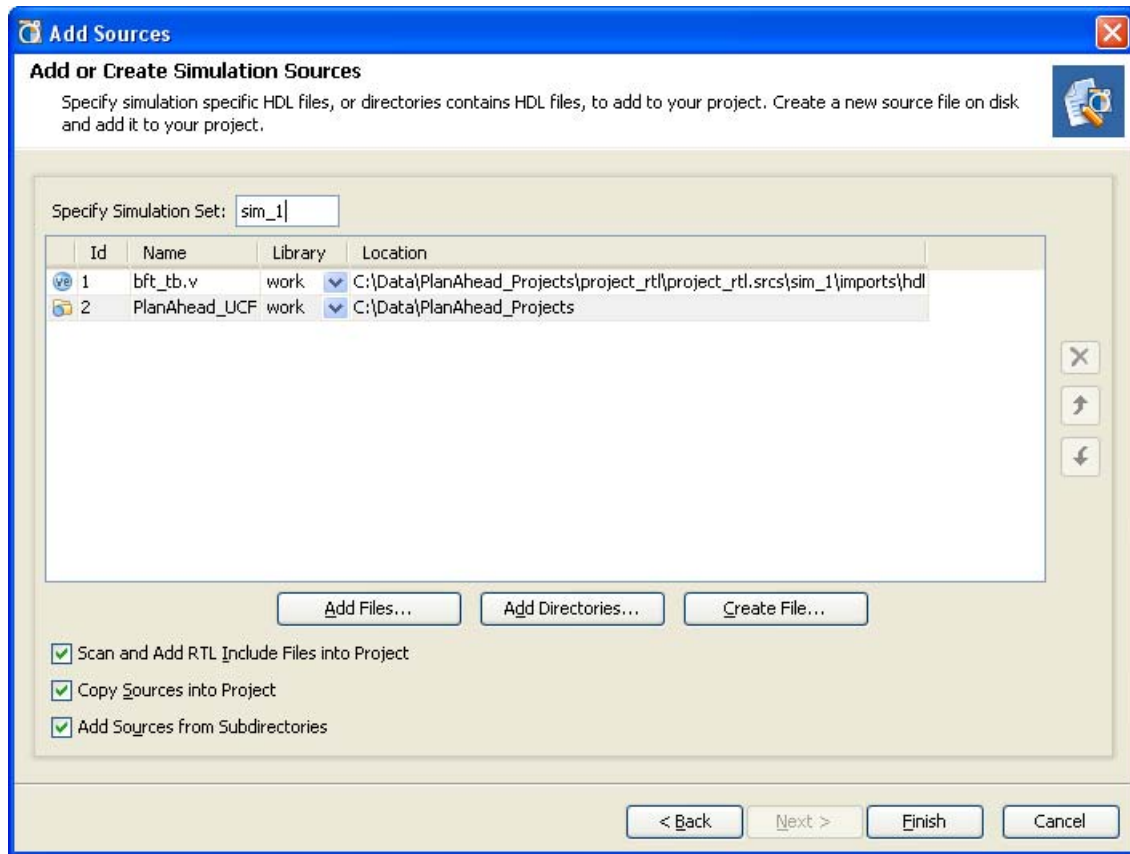

Figure 3-23: Add or Create Simulation Sources
2. Select **Add or Create Simulation Sources**, and click **Next**. The Add or Create Simulation Sources dialog box opens as shown in Figure 3-23, page 67.